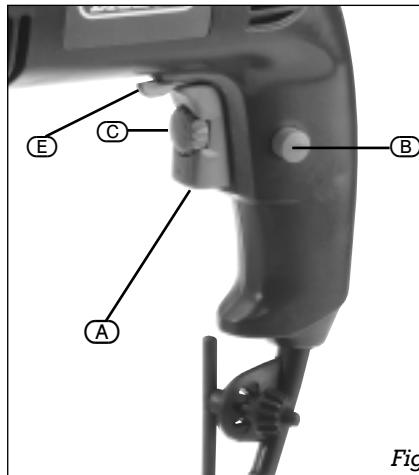

Fig.2.
The switch (A) on both of these tools are fitted with a locking device, (B), allowing the tool to be operated for long periods of time without interruptions. *Fig.2.*
The maximum speed is set by means of the graduated knurled knob (C) (±), located on the switch (A). *Fig.2.*
These models are equipped with a reverse selector (E) in order to be able to rotate the machine chuck either to the right or to the left. *Fig.2.*